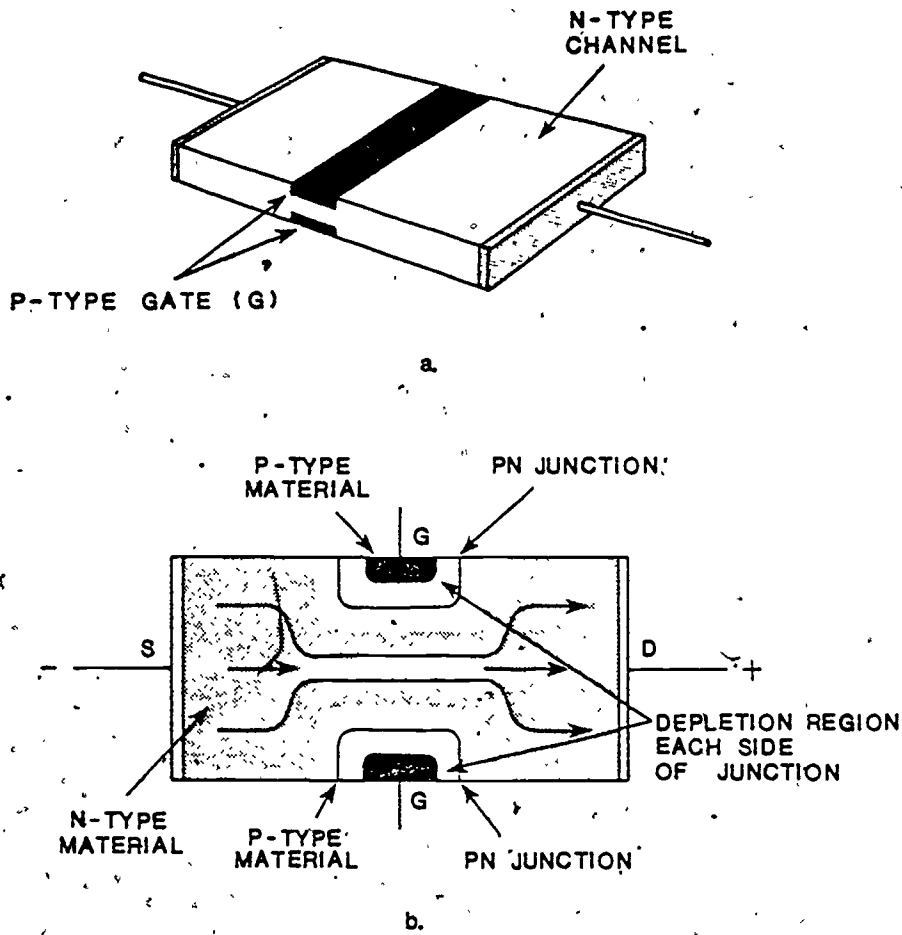

Figure 22. JFET Structure.
Figure 22 shows the channel (shaded) which is made from an N-type material (4-5) and a control segment that is located on either side of the channel and made from a P-type material (4-3). The internal surface between the channel and control gate forms a junction. Notice that there is a P-type material located on either side of the channel. Both of these control surfaces are identical, and they act on the channel equally when they are used.
To control current flowing through the device in Figure 22, one must first hook up the voltage sources. Then, both gates (G) must be tied to the same voltage point, making this voltage negative. A voltage will then be applied between the source and drain. Figure 23 shows these connections with voltages and polarities.